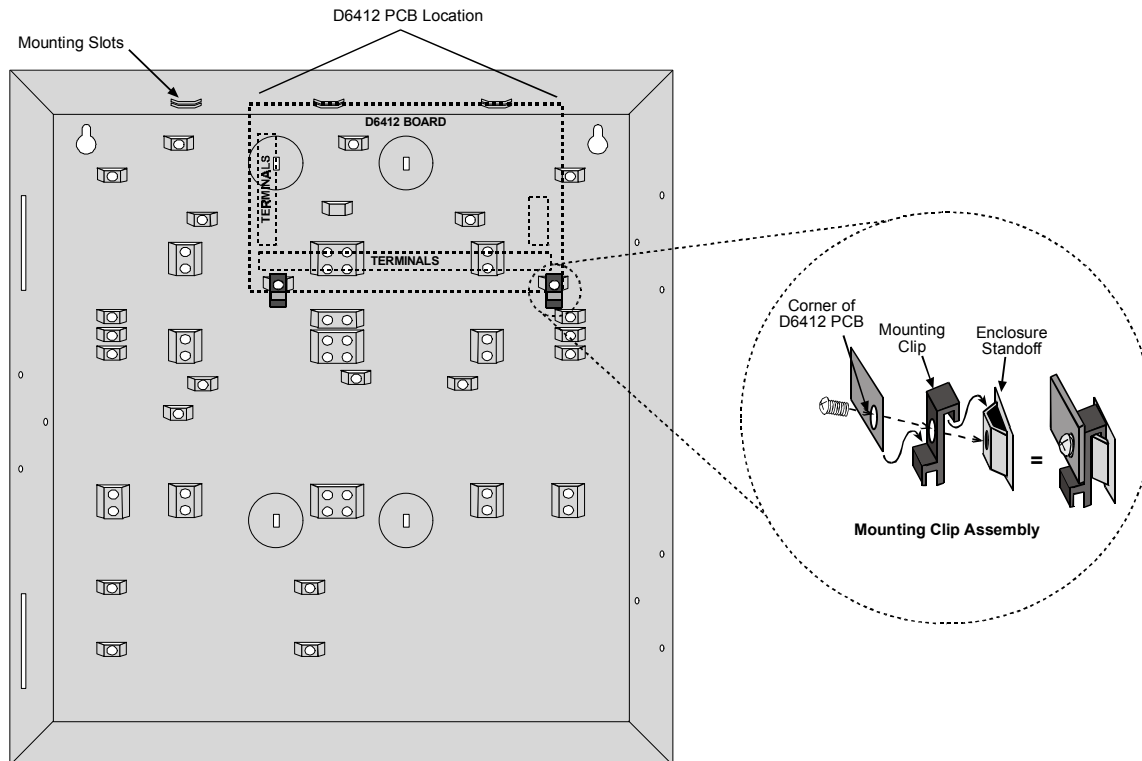

Figure 2: Enclosure Mounting
- 1) Place the panel mounting clips on the appropriate standoff in the enclosure (see Figure 2).
- 2) Slide the panel into the slots at the top of the enclosure and then secure it with the two screws provided (see Figure 2).